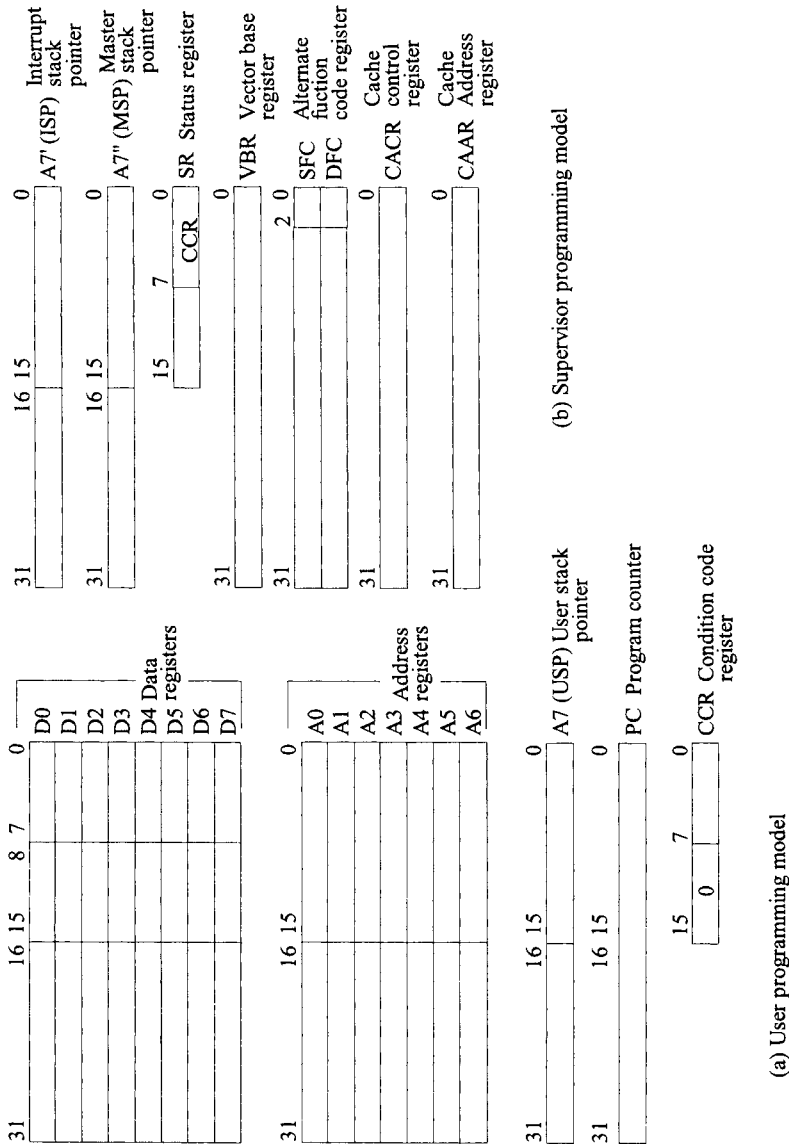

FIGURE 11.4 MC68020 programming model
Figure 11.4 shows the MC68020 user and supervisor programming models. The user model has fifteen 32-bit general-purpose registers (D0–D7 and A0–A6), a 32-bit program counter (PC), and a condition code register (CCR) contained within the supervisor status register (SR). The supervisor model has two 32-bit supervisor stack pointers (ISP and MSP), a 16-bit status register (SR), a 32-bit vector base register (VBR), two 3-bit